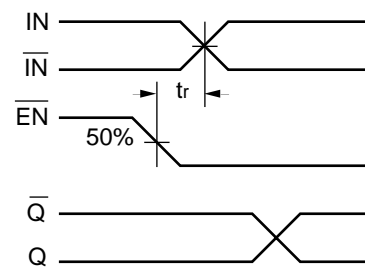

Figure 3. Release Time
- The release time is the minimum time that  $\overline{EN}$  must be de-asserted prior to the next IN/ $\overline{IN}$  transition to ensure an output response that meets the specified IN to Q propagation delay and output transition times (see Figure 3).